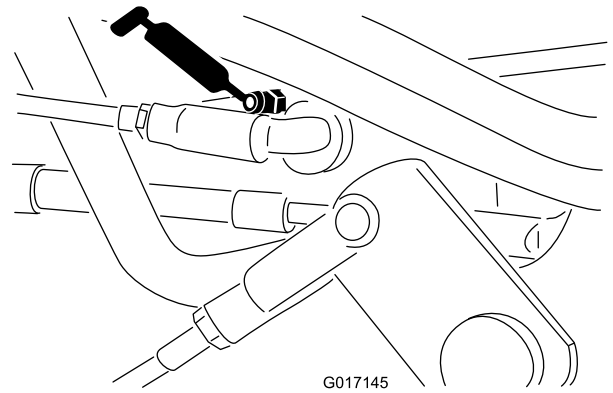
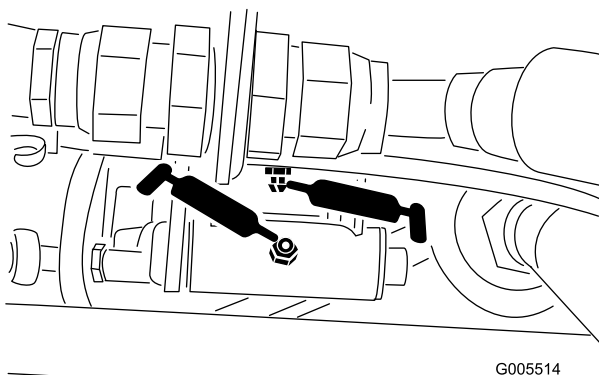

Figure 39
Figure 38
- Speed-selector linkage (Figure 38 and Figure 39)